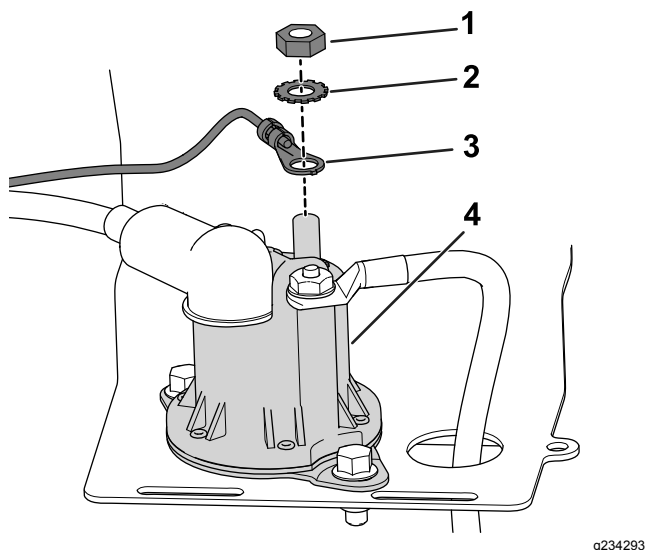

Figure 5
2. Use the solenoid nut and lock washer to secure the ring terminal to the solenoid (Figure 5).